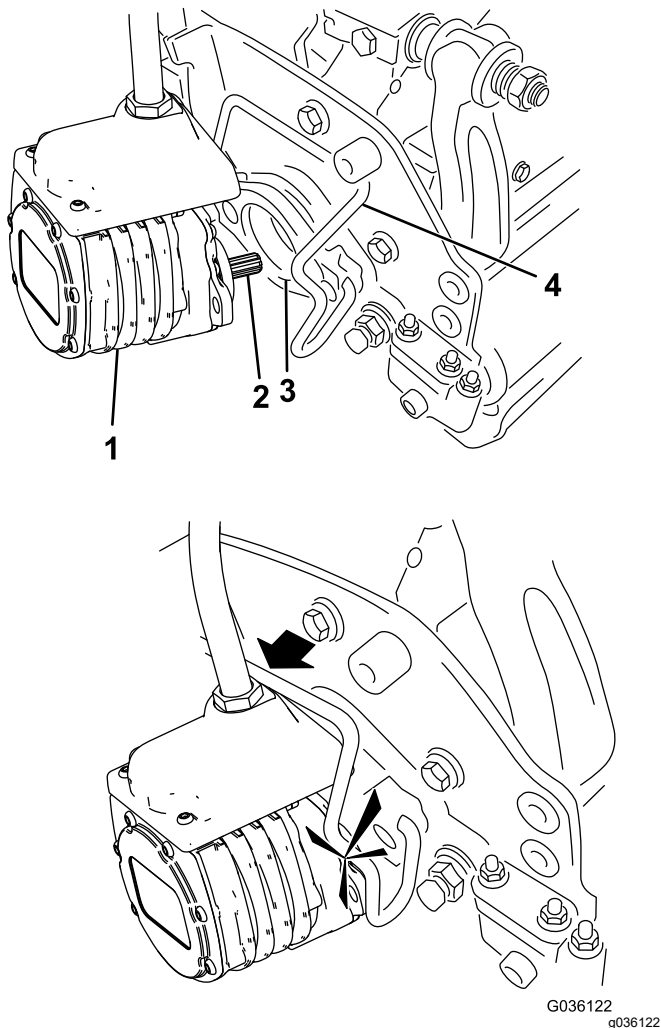

Figure 53
- Coat the spline shaft of the cutting unit motor with clean grease (Figure 53).
- Insert the motor into the left side of the cutting unit (as viewed from the operator's position) and pull the motor retaining bar on the cutting unit toward the motor until you hear a click from both sides of the motor (Figure 53).